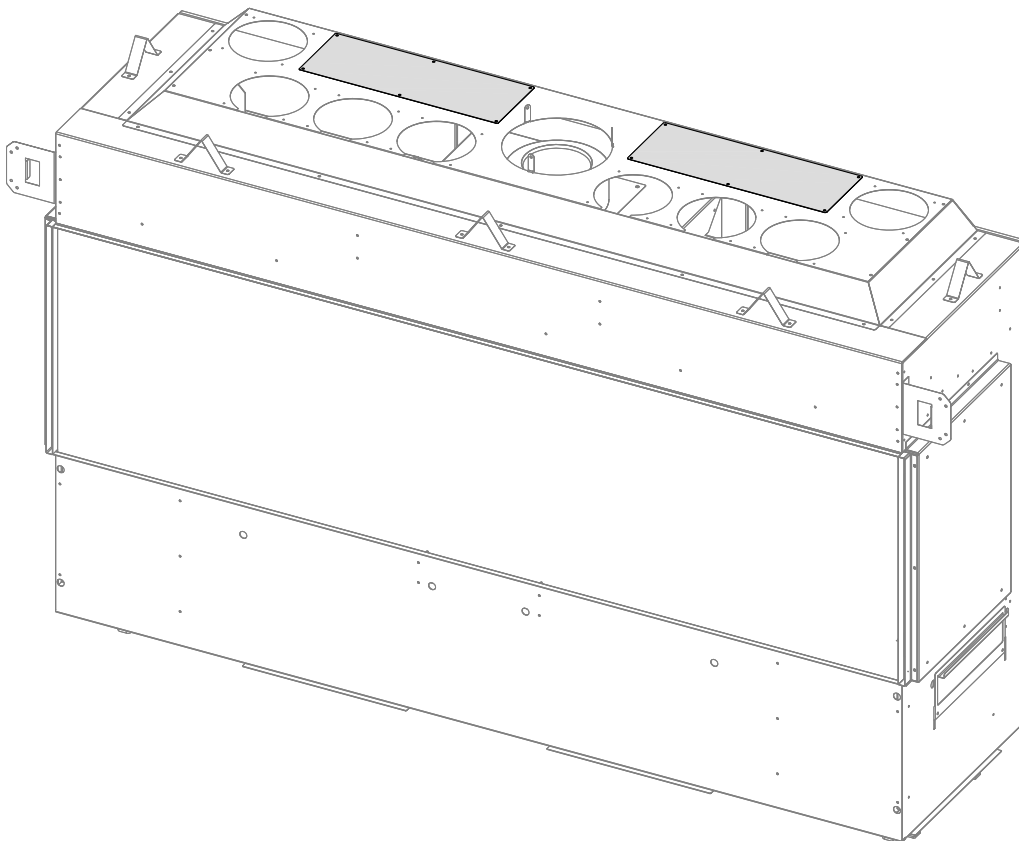

Figure 4.20 - Vented Cavity Cover Plates Location
1. The fireplace ships ready for all vented cavity installations in the single sided installation scenario. Leave the rectangle cover plates installed on the fireplace, as shown in Figure 4.20.